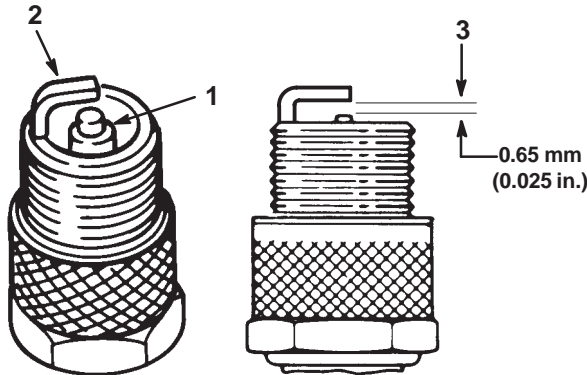

Figure 28
1. Look at the center of the spark plug(s) (Fig. 28). If you see light brown or gray on the insulator, the engine is operating properly. A black coating on the insulator usually means the air cleaner is dirty.
2. Check the gap between the center and side electrodes (Fig. 28). Bend the side electrode if the gap is not correct (Fig. 28).